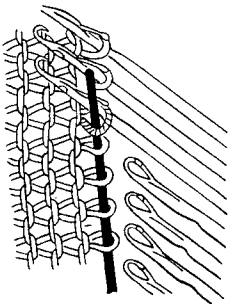

Fig. 63
a) Transfer the knitting to a hand knitting needle. (See Fig. 63) b)